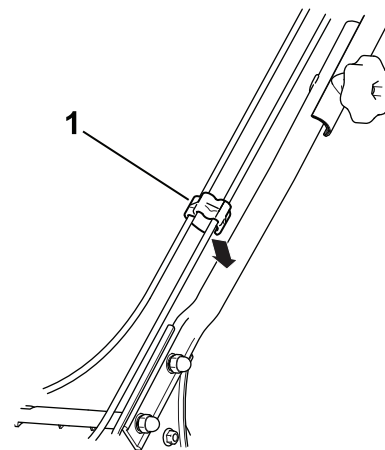

Figure 5
3. Insert the cables into the cable clamp and attach the cable clip to the handle as shown in Figure 5.